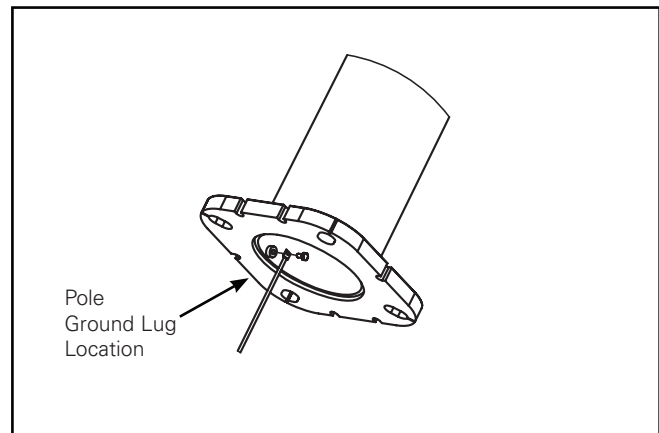

Figure 3. Pole Ground Strap Detail
3. Rest the pole on top of transformer base, use raised areas in four corners on top of transformer base as guide to rest the pole (Figure 3.)
4. Line up the four pole slots with the holes in the transformer base. Install four 1 inch bolts with thin washer through the top of the base. (Figure 3.)
5. Open the door of transformer base (Figure 3.), install four nuts with thick washer and tighten the four nuts and secure the pole into place. Recommended torque to be minimum 150 ft. lbs.